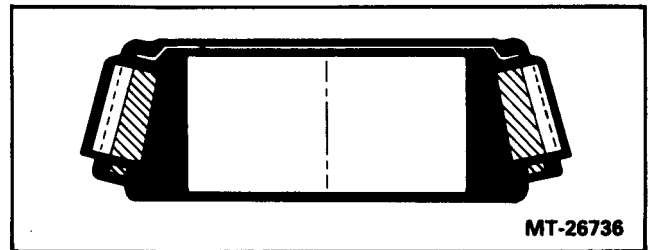

Figure 33.
1. Pressure lubricate inner and outer bearing assemblies, so that grease is forced between the cone and cage until grease is expelled between the cage and rollers (Figure 33).